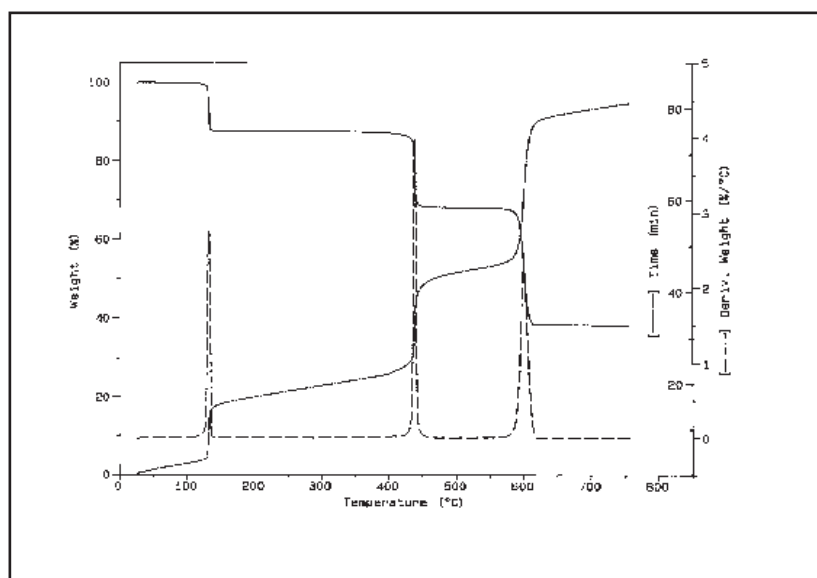

Figure B.5
- The resolution 5.0 scan (Figure B.5) gave a dramatic improvement in resolution in only twice the time required for the 20 °C/minute scan.